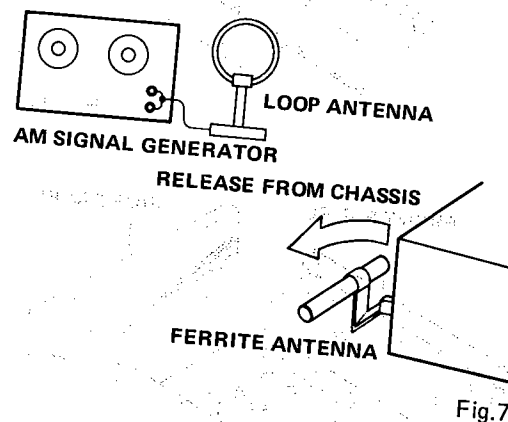

Fig. 7
3. Set signal generator to AM function, 30% modulation with 400Hz. Connect loop antenna to generator RF output and place near receiver's ferrite antenna. See Fig. 7.